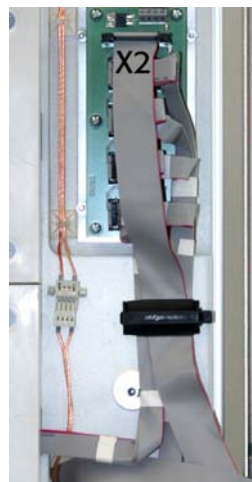

fig. 3.1-34
**Step 25:** Then connect the manifold PCBs to the control panel using the two (2) **26-stranded** flat ribbon cables. The broad flat ribbon cables are marked as "A" and "B" as well as the plug number "X2". Connect the plug of flat ribbon cable "A" to the plug "X2" of the manifold PCB at the right upper basic module (**fig. 3.1-34**). The flat ribbon cable "B" has to be laid through the prepared hole of the left upper module (OL) to the rear side. Then it needs to be laid through the PVC installation channel at the back and through the hole again of the right upper module (OR) to the front in order to be connected to the control panel. Please be aware that you need to follow these instructions only if it has not been delivered that way. Now connect the flat ribbon cable "B" to the plug "X2" of the manifold PCB at the left upper basic module.